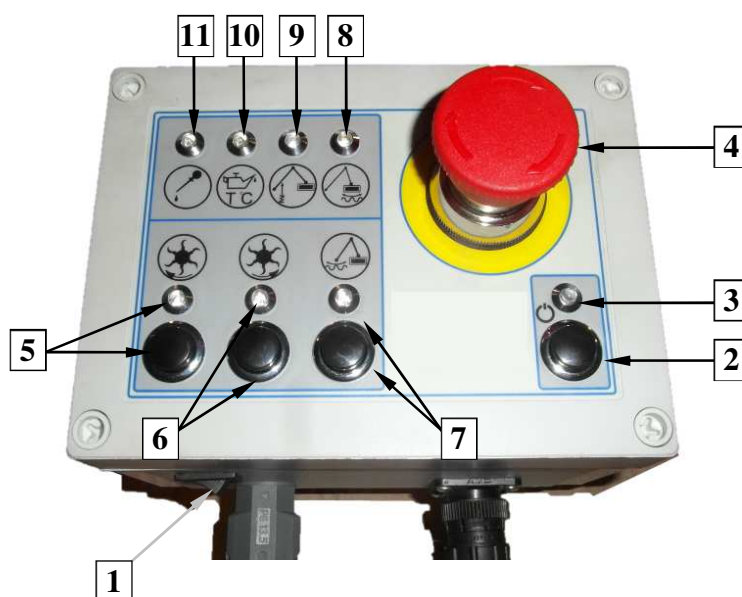
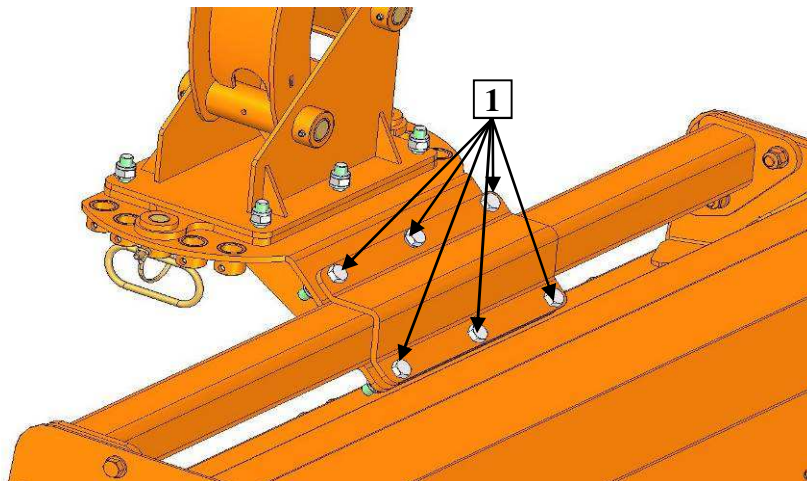

Fig. 43. Control panel
Fig. 48. Lateral shift in relation to arm
4. Button for turning on the head's unloading function. Pushing the button turns on the first arm's unloading function, which is signaled by lighting up of diode (9) (**Fig. 43**). Pushing button 4 on joystick again turns off the head's unloading function.
Proportional control of extension arm is possible using the same control panel as for electrical control (**Fig. 43**) and joystick (**Fig. 45**). Controlling is presented in **Fig. 48**.
2. Moving joystick in directions (2), enables control of the other arm.
3. Unloading function switch on button. Pushing the button will turn on the first arm's unloading function, which is signalled by lighting up of diode (9) (**Fig. 43**). Pushing the button again (3) (**Fig. 46**) switches the unloading function off.
6. Function button (P). Pushing this button and moving the joystick right/left extends/retracts the arm respectively.
7. Button for turning head's floating function on. This function is signaled by lighting up of diode (8) on control panel (**Fig. 43**). Pushing button (7) on joystick again turns off the head's floating function. The function is turned off as soon as the head's rotation is being controlled.
- ❑ untighten 6 screws M14 (1) (**Fig. 48**),
- ❑ tighten screws M14 (1).